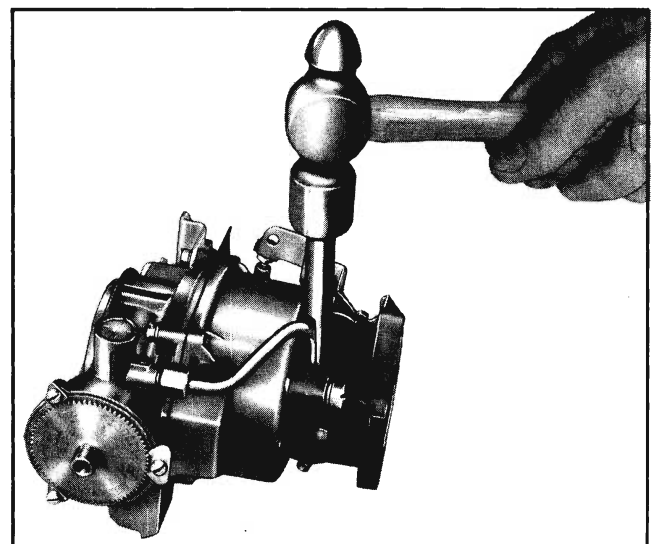

Fig. 6B-37 Installing Choke Tube Seal in Throttle Body
b. Place flared end of tube with seal into throttle body. Using seal punch J-4551, tap lightly to hold seal in throttle body. Rotate tube while tapping seal so that it is started uniformly and evenly into the throttle body (Fig. 6B-37).